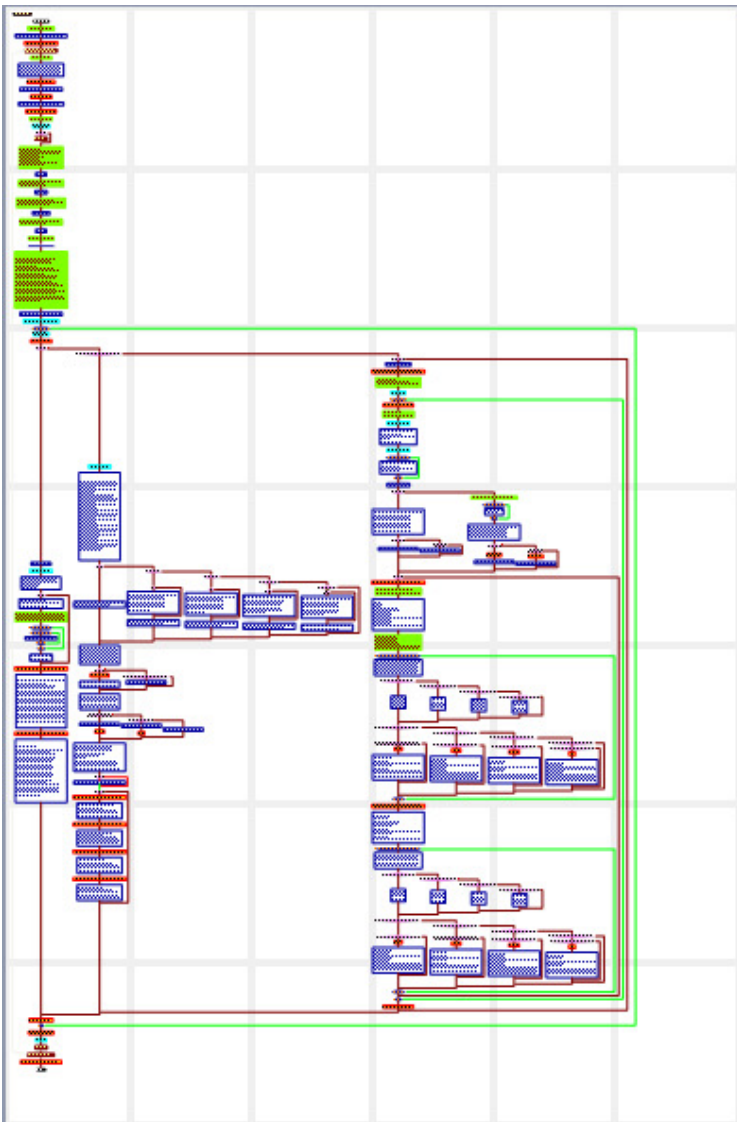

Fig. 10 Index of pages
- (1) Print the flowchart on a continuous paper (8.5" x 11") with zero margin setting (top, bottom, left and right, this depends on the printer you are using). This may produces several long paper strips. Then you tape them together side by side to make the final flowchart.
- (2) Print the generated flowchart on standard A4 paper and also generate an outline view of the overall flowchart as "index" of these pages [from Visio→ print preview → screen dump] (Fig. 10)